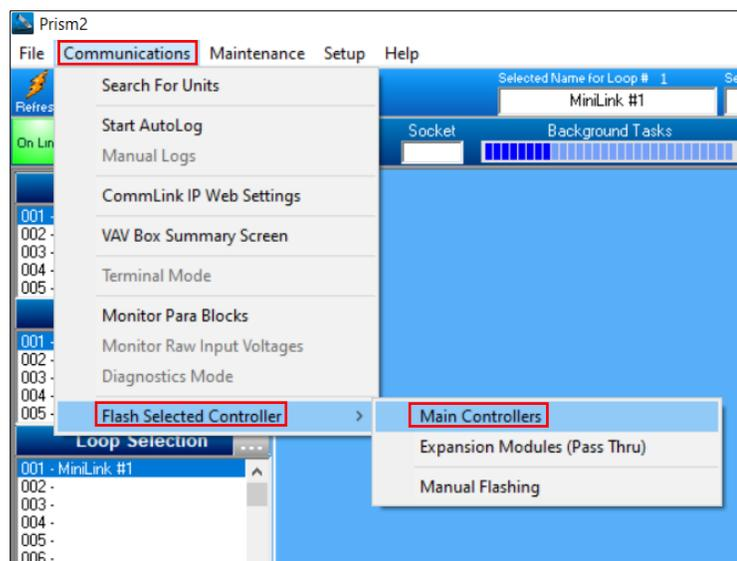

Figure 32: Accessing The Main Controller Flash Module
1. Left-click “Communications”, then left-click “Flash Selected Controller”, and select “Main Controllers” (see figure 32).